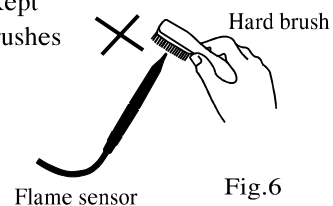

Fig.6
2. The safety sensor is delicate, it should always be kept clean and dry system and please do not use stiff brushes or rough cleaning pads for cleaning.(Fig 6).